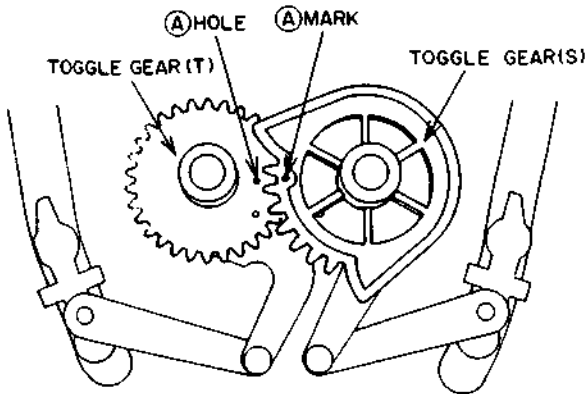

Fig. 4-10
- 1) Set the TOGGLE GEAR (T) and TOGGLE GEAR (S) to the unloaded position with your fingers. Align the (A) mark on the TOGGLE GEAR (S) with the (A) hole of the TOGGLE GEAR (T) as shown in Fig.4-10.